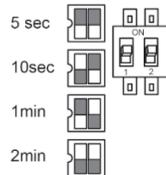

Figure 7
- Output duration can be set to 5 seconds, 10 seconds, 1 minute, or 2 minutes using dip switches (Figure 7).
8. Adjust output duration as needed (Figure 7).